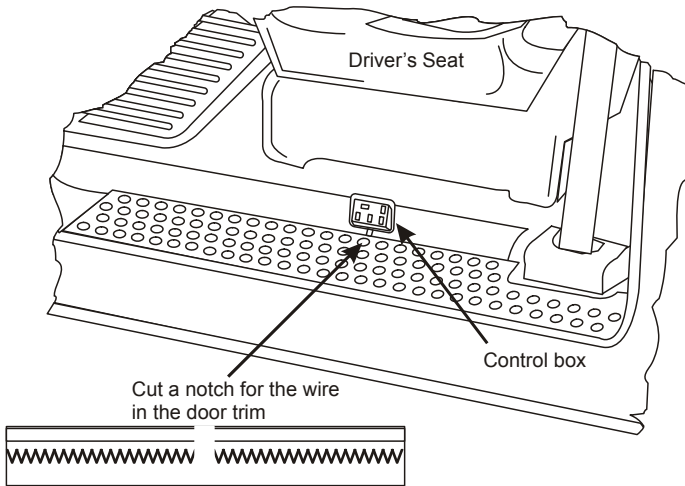

Figure 4.8
- Mount the control box using the supplied sheet metal screws (Figure 4.8).
- Cut off the piggy-back connector and connect the black wire to the green with red stripe wire at the park brake switch (Figure 4.8). Solder and seal this connection.